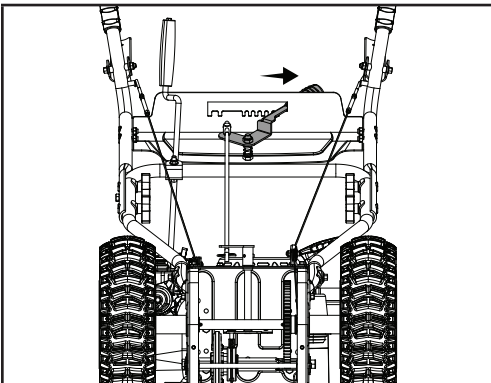
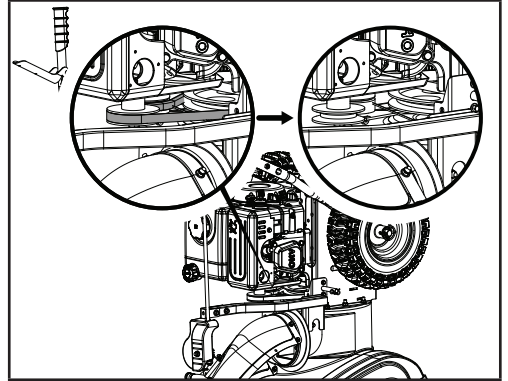

Figure 31A
Figure 31B
- Slide the speed adjusting handle to the right (Fig. 31A) and remove the loose belt by cutting it or any remaining belt pieces if the belt has already broken (Fig. 31B). If cutting the belt be careful of the tensioning pulley and arm as they are spring loaded and could cause injury when the belt is cut.